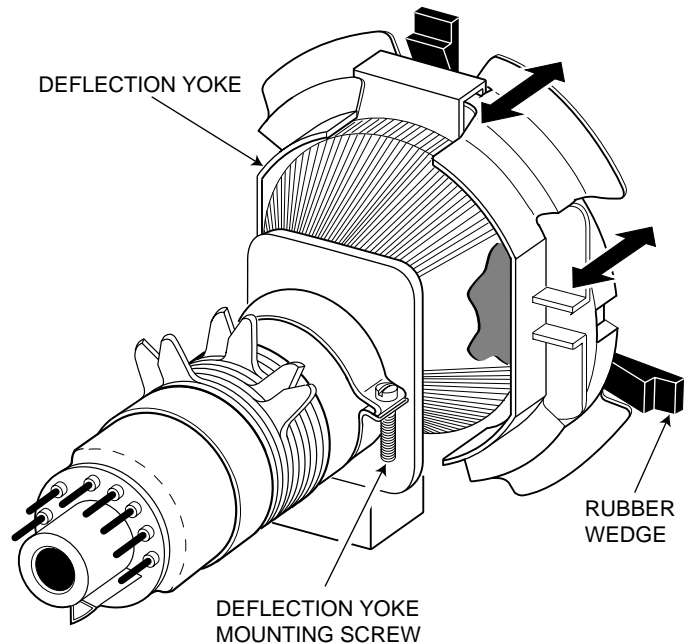

Figure 1. Deflection Yoke Movement
1. When replacing picture tube or deflection yoke, mount deflection yoke and purity and convergence magnets assembly properly. See Figure 1. Position the picture tube facing east or west. Demagnetize the picture tube and receiver using an external degaussing coil. Set receiver to Service Menu NO. 73 (no vertical sweep) while degaussing.